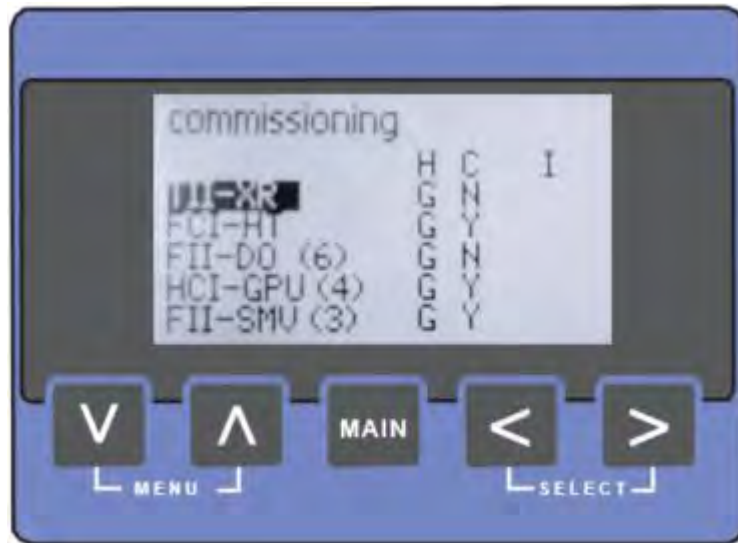

FIGURE 4-28 The board list screen (commissioning)
- The [commissioning] menu starts with the [board list] screen (see FIGURE 4-28).